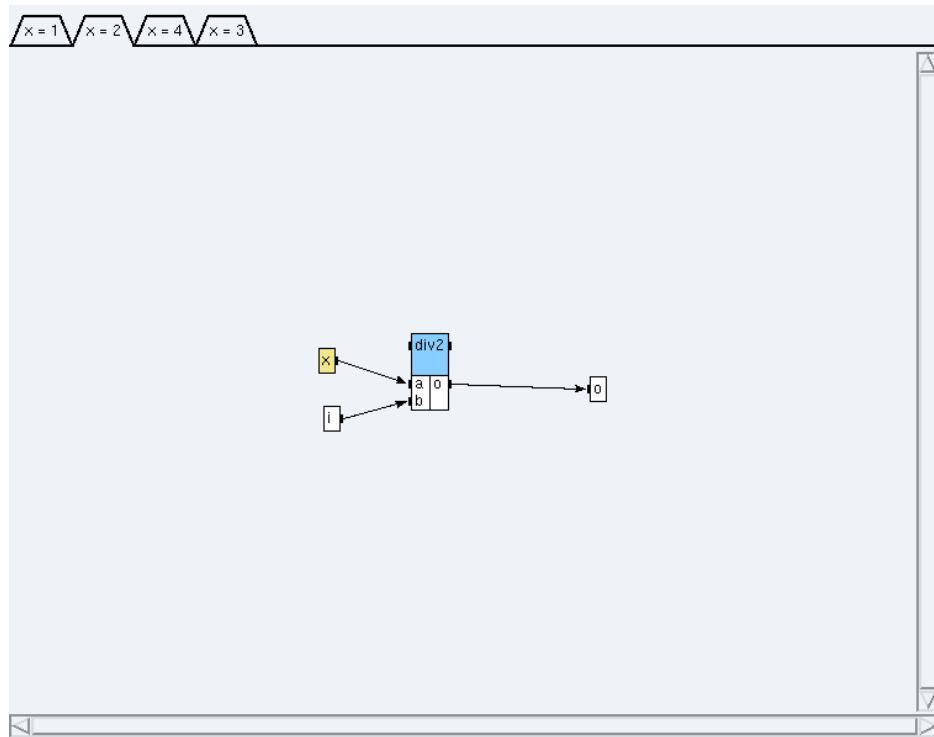

Figure 5.3: Condition $x=2$
- * click on the condition **`x=2`** (*cf.* figure 5.3) and create a reference `div2<1>` to the definition `int/Arit_div`,